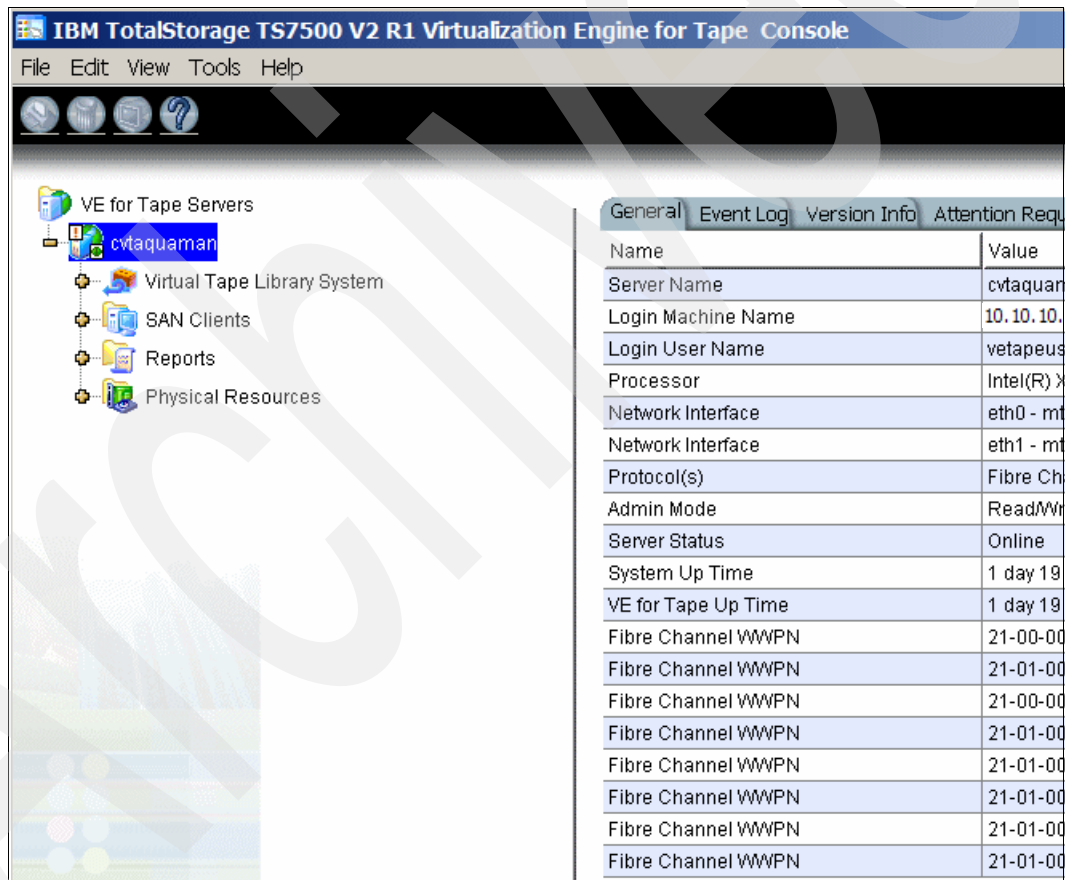

Figure 8-3 VE for Tape console window
3. If the connection is successful, you can see the server on Virtualization Engine for Tape Console. A part of GUI window is shown in Figure 8-3.